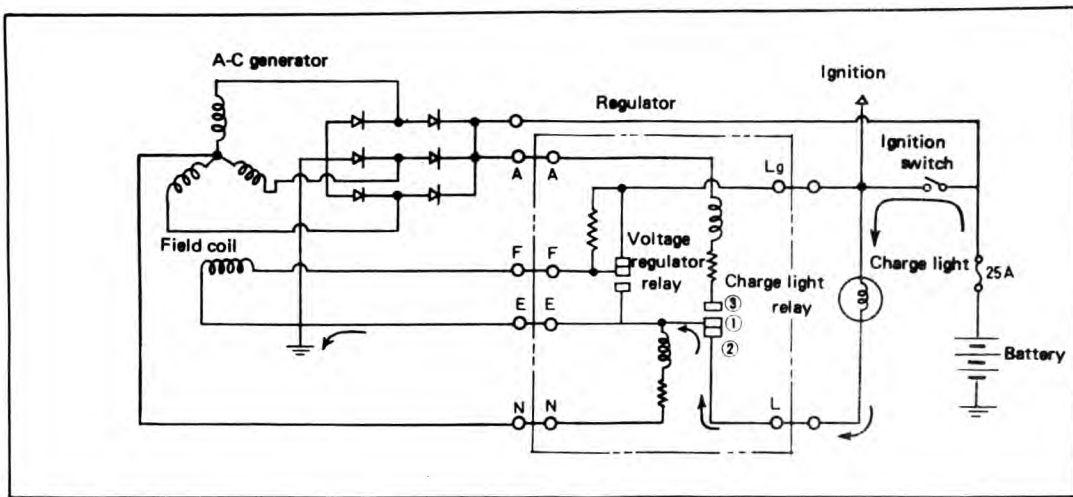

Fig. 12-28 Charge warning light operation diagram
In Fig. 12-28, charge light relay contacts (1) and (2) are closed when the engine is not running (when there is no a-c generator output).